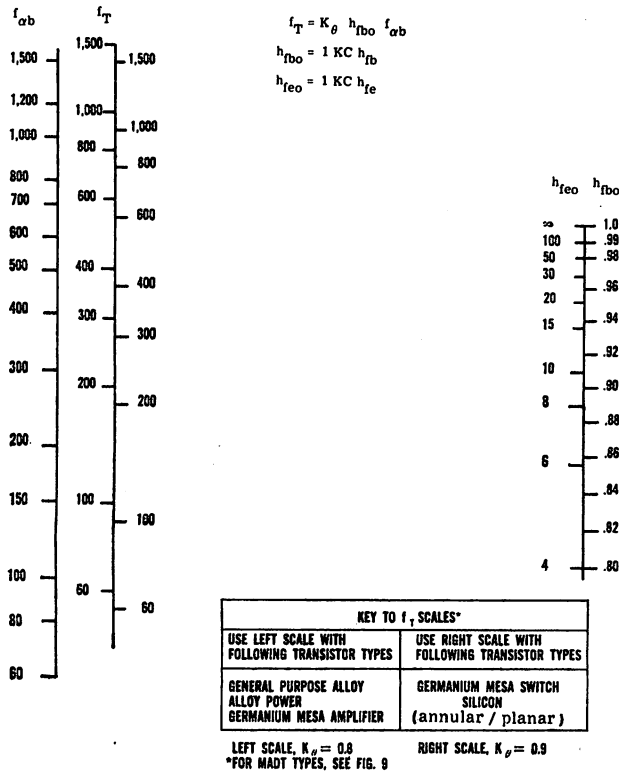
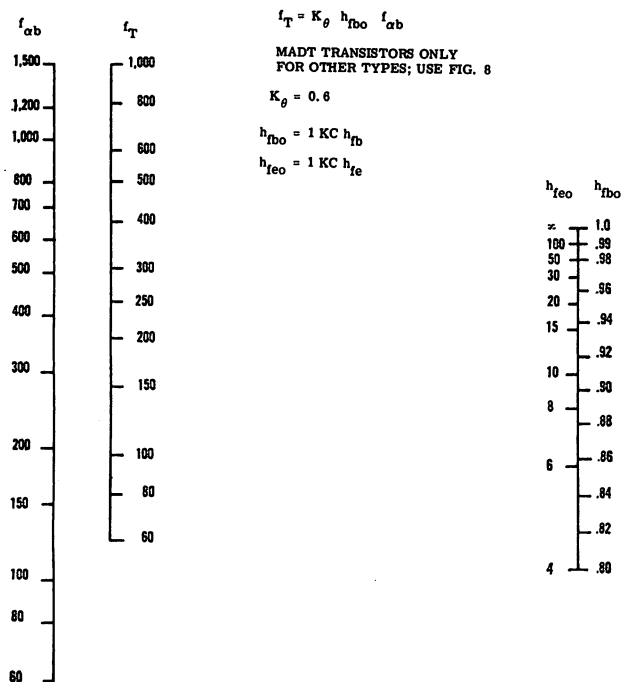

Fig. 8. This nomogram represents f_T , $f_{\alpha b}$, and either h_{fbo} or h_{feo} .
Fig. 10. Identical to Fig. 8, this nomogram is used only for MADT transistors.
- (B) If f_T is not known use Fig. 5 to find f_T if h_{feo} and $f_{\alpha e}$ are known or Fig. 8 to find f_T if $f_{\alpha b}$ is known (Fig. 10 for MADT types).
Figure 8 is a nomogram of f_T , $f_{\alpha b}$, and either h_{fbo} or h_{feo} . To account for variations in this relationship with different transistor types, there are two f_T
scales, with a guide to which one to use. Given: for a germanium mesa switching transistor, $f_T = 400$ mc and $h_{fbo} = 0.90$. Find: $f_{\alpha b}$. Answer: 494 mc. For MADT types, see Fig. 10.
Figure 10 is a nomogram which is identical to Fig. 8 except that it is for use with MADT transistors (see instructions for Fig. 8).